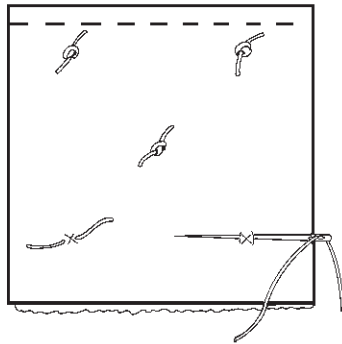

Fig. 17-2
5. Mark five positions for tufts on the pocket. Arrange the tufts evenly near each corner and at the center. Thread a large needle with a single strand of yarn about 20 inches (52 cm) long. At each mark, take a $\frac{1}{4}$ -inch (6-mm) stitch through all layers, leaving a 1-inch (2.5-cm) tail at both the beginning and the ending point of the stitch. Cut the yarn, and repeat this tufting process at each mark. Tie each tail in a double knot. (Fig. 17-2)